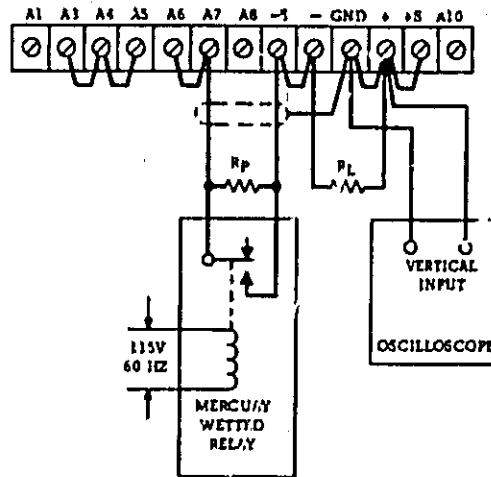

Figure 5-10. Constant Voltage Programming Speed, Test Setup
5-32 Programming Speed. This measurement is made by monitoring the output voltage with an oscilloscope while rapidly changing the remote programming resistance. For up-programming, the remote resistance is varied from zero ohms to the value that will produce maximum output voltage; and for down-programming, the remote resistance is varied from the value that will produce maximum output voltage to zero ohms. To check the up-programming speed, make the connections indicated in Figure 5-10; for down-programming, simply remove R_L . The load resistance is included for up-programming and removed for down-programming to present the worst possible conditions for the supply to reach the programmed voltage. Refer to Application Note 90, Power Supply Handbook for further details on remote programming speed. To check the programming speed, proceed as follows:
1. Restrap the rear barrier strip as indicated in Figure 5-10. Note that the jumper between +S and A10 is removed. This disconnects the output capacitor C20 to increase the programming speed. A minimum amount of output capacitance (C19) is permanently wired to the output and should not be removed, because the supply could oscillate under certain load conditions. The programming speed increases by a factor of from 10 to 100 when the output capacitor C20 is removed.
2. Connect the relay, oscilloscope, and programming resistor R_p as illustrated in Figure 5-10. Select the value of the programming resistor that will produce maximum output voltage of the supply. This value is obtained by multiplying the programming coefficient (200 ohms/volt) by the maximum rated output voltage of the supply.